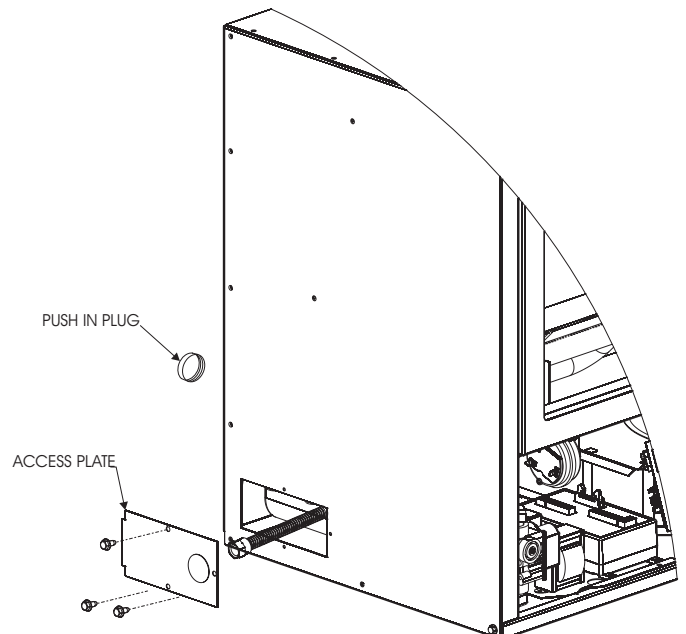

Figure 41
1. Remove the access plate on the left side of the cabinet by removing three screws as shown in Figure 41. Put the screws aside.